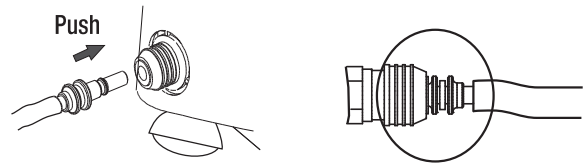

Figure 2
- To connect the drain hose to the unit, push drain hose connector B into the connector A. (Figure 2)